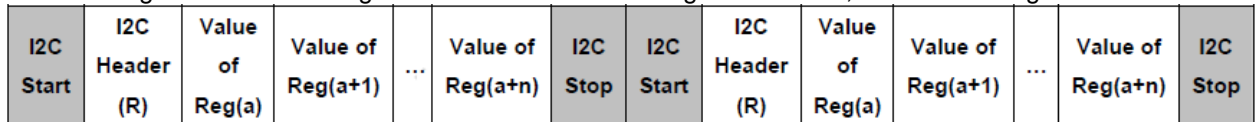

Figure 2 - Repeated Register Read.
Touch IC I2C host interface protocol supports Repeated Register Read. That is, once the Start Register Address has been set by host, consequent I2C Read(R) transactions will directly read register values starting from the Start Register Address without setting address first, as shown in Figure 2.